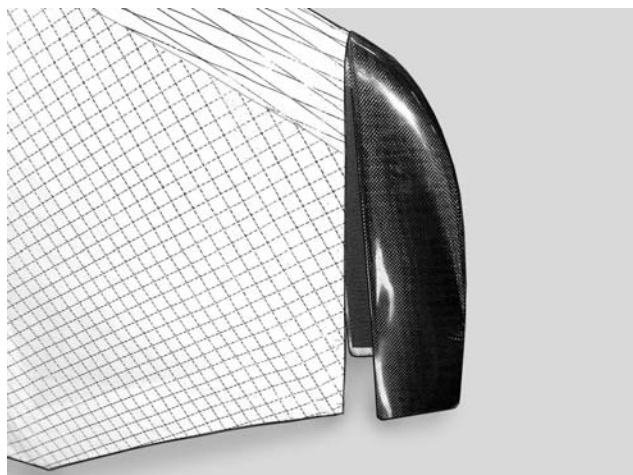

Fig. 18
15. Attach plastic winglets. Put front part of the winglet between the sail and the outer part of the leading edge tube (Fig.18) .